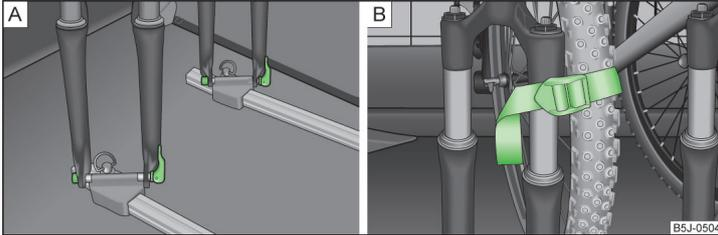

Fig. 75 Put in the bicycle/example fastening the front wheel
- › Place the bicycle fork on the fixing axle and tighten with the quick release lever » Fig. 75 - [A].
- › It is best to store the removed front wheel between the left crank and the bicycle frame, attach it with a strap to the front fork » Fig. 75 - [B] or to one of the fixing points.